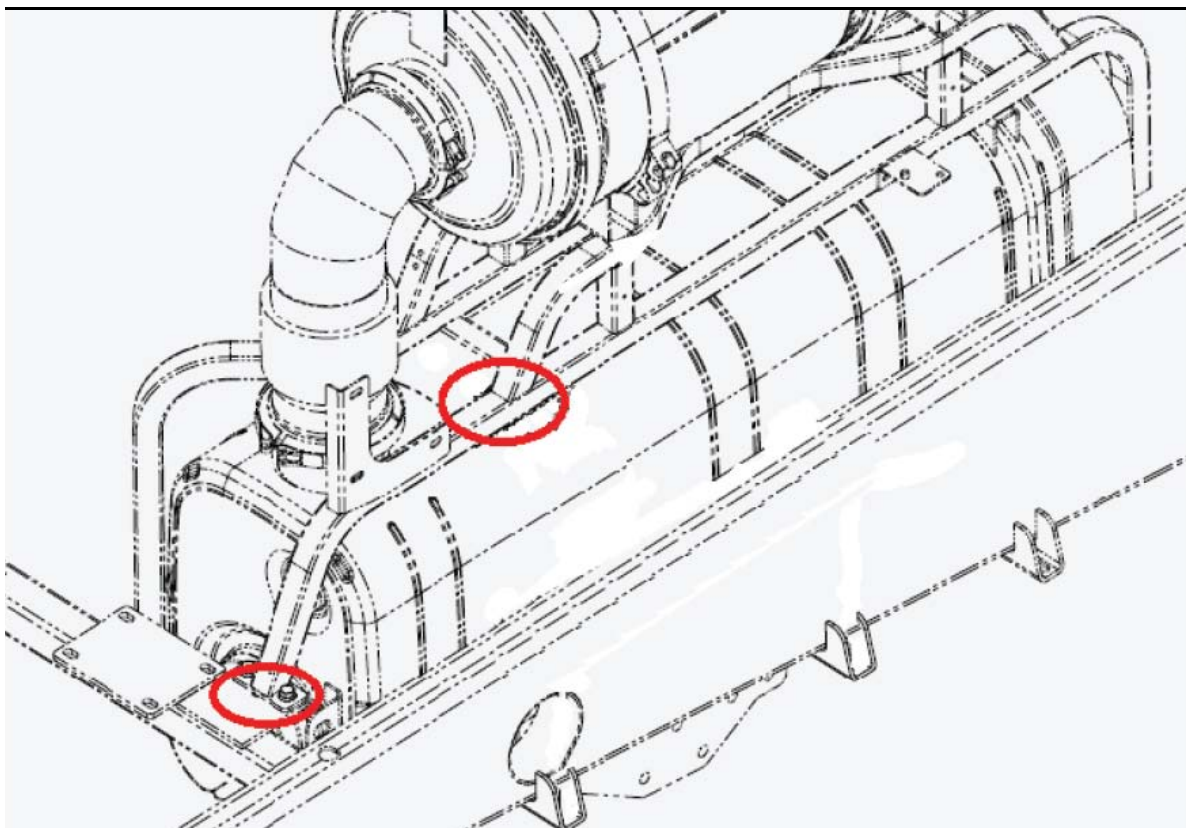

Figure 1.
Visually inspect the two (2) areas circled in Figure 1.
Upon visual inspection, if signs of cracking are evident at one or both locations identified in Figure 1, contact the MCI Fleet Support Technical Center at 1-800-241-2947 for further information.